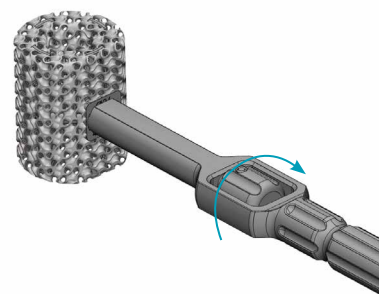

Fig. 10
10. With the definitive Ossera™ AFX implant selected, screw attach the inserter into the lateral insertion hole of the Ossera™ AFX by placing the prongs of the inserter into the corresponding lateral slots in the implant and rotating the knob clockwise while holding the handle. (fig. 10). Autograft, allograft or synthetic bone graft material may be packed into the porous lattice and along the circumference of the central hole near each end of the Ossera™ AFX. When the nail is advanced through the central hole of the Ossera™ AFX, the bone graft will help to prevent contact between the Ossera™ AFX and the nail.